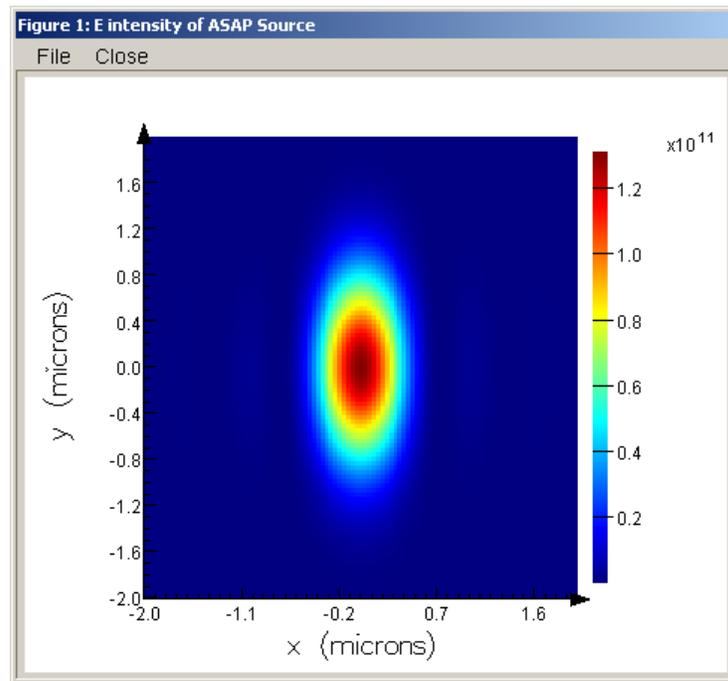

Figure 7. The electric field intensity imported from ASAP to FDTD Solutions
- Try plotting the current field by clicking **Plot Current Field**, you will see the same plot as Figure 7.